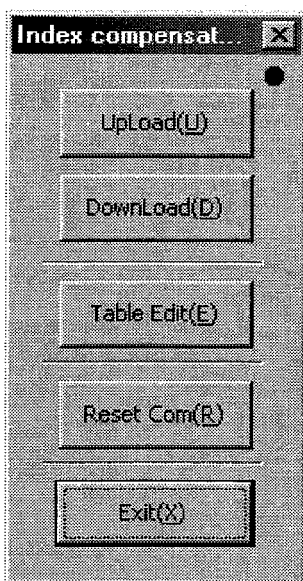

Figure 7.43 “Index compensation” dialog box
(1) Equal division compensation
Click “*IndexTypeA (I)*” on “Index Menu” to display the “Index compensation” dialog box (see Figure 7.43).